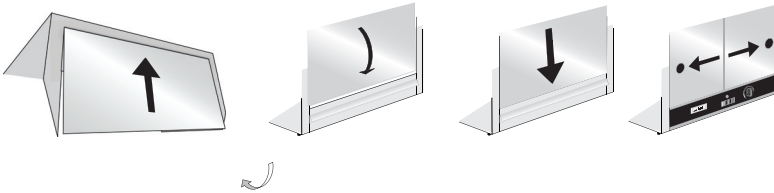

Fig. 1
2. Take the glass display panel and raise it at an angle into the upper track at the rear of the unit **[Fig. 1]**.